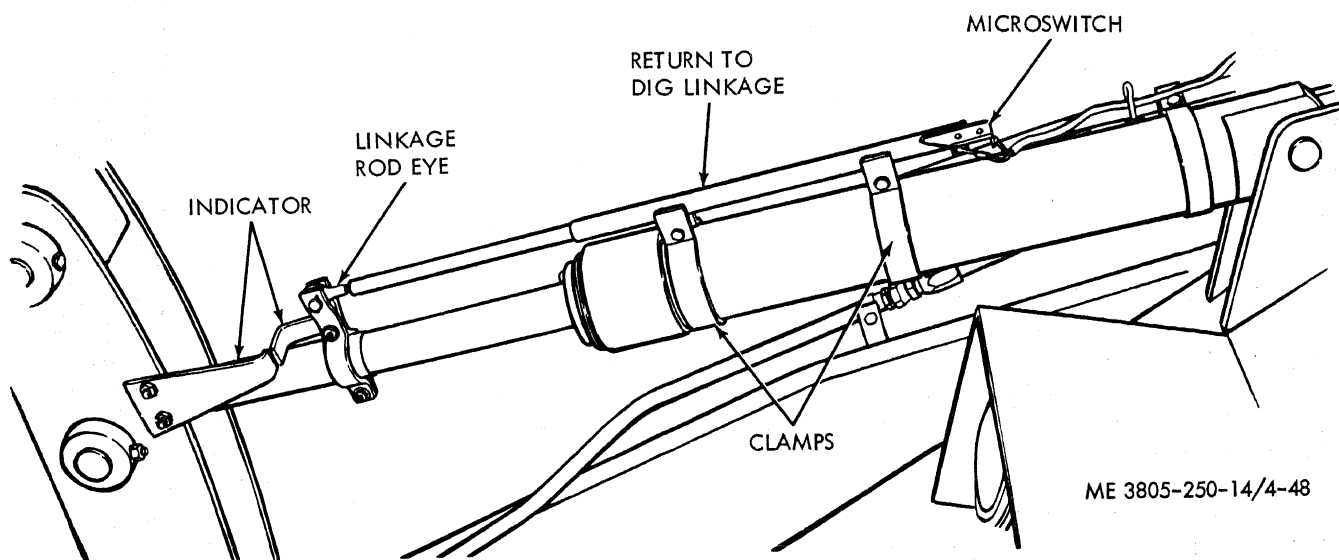

Figure 4-48. Return to dig linkage, removal and installation.
(1) The return to dig linkage, mounted on the right tilt cylinder, automatically returns the bucket to a level or digging position after dump.
(2) A bucket sight level gage consists of pointers mounted on the end of the tilt cylinder and on the bellcrank. When the pointers are aligned, the bucket is in a level position.
b. Removal. (fig. 4-48).
(1) Tag and disconnect wiring to the return to dig microswitch.
(2) Remove bolt, nut and lockwasher securing the return to dig cylinder to the tilt cylinder clamps.
(3) Remove cotter key and pin from the linkage rod eye. Remove return to dig linkage.
(4) Remove bolt, nut and lockwasher securing the cylinder half of the indicator.
(5) Remove bolts, washers, and nuts securing the bellcrank indicator.